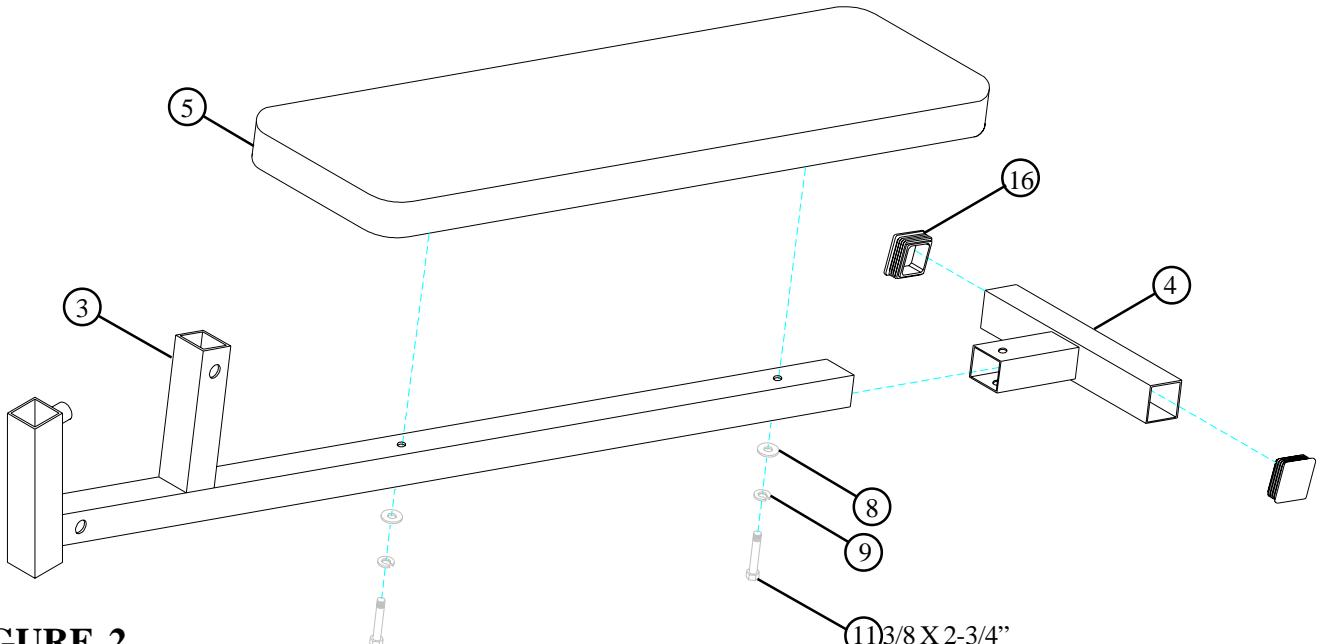

FIGURE 2
- Insert two 2" SQ. END CAPS (16) into the ends of the BASE (4) as shown in FIGURE 2.
- **SECURELY** assemble the PAD (5) to the MAIN PAD SUPPORT (3) and BASE (4) using two 3/8" X 2-3/4" BOLTS (11), two 3/8" LOCK WASHERS (9), two 3/8" WASHERS (8). See FIGURE 2.